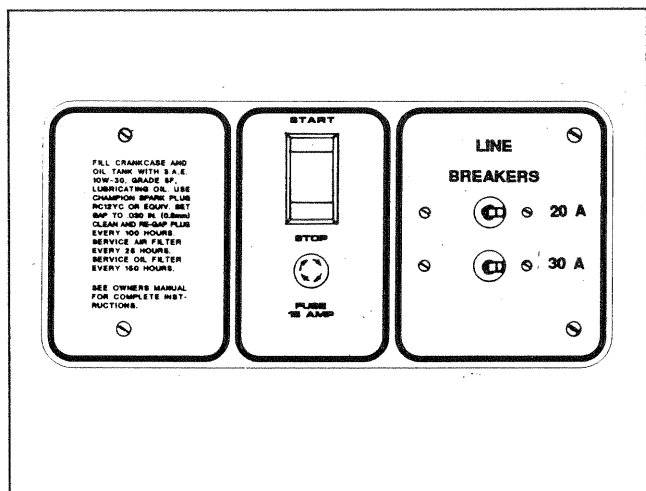

Figure 1. Typical Control Panel
The generator control panel (Figure 1) has the following features mounted on it:
- **Line Breakers:** Protects the generator's a-c output circuit against overload, i.e., prevents the unit from exceeding its wattage/ampere capacity. Figure 1 shows the Series NP52G panel with one 20 amp and one 30 amp line breaker.